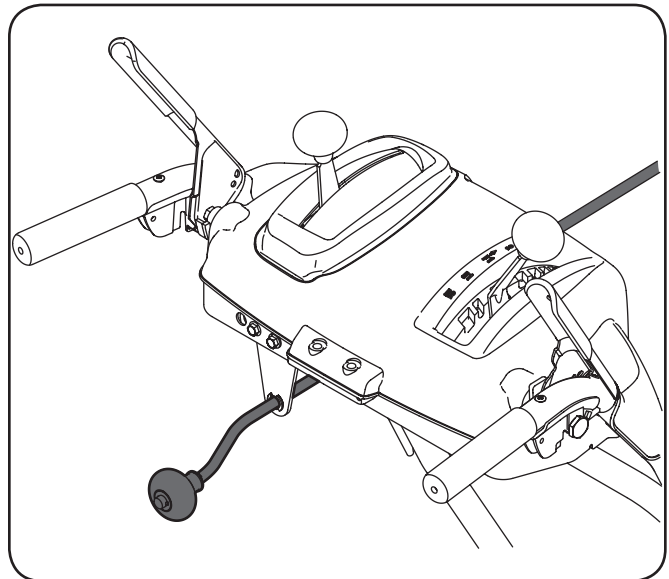

Figure 3-6
6. Insert the chute directional control rod into the support bracket on the rear of the dash panel. See Figure 3-6